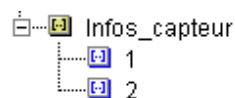

Figure 111 : Types – Tree structure versions
- Click  to access the tree structure versions of the selected model (Figure 111),
Caution : If the type has several versions, the duplication is possible only in the last version. In order to duplicate another type version, we must select the version in the tree structure type versions (Figure 111) before activating the command **Model ... → Duplicate**.
Caution : If the type has several versions, the copy is carried out only in the last version. To copy another version of the type, it is necessary to select the version in the tree structure version model (Figure 111) before activating the command **Model ... → Copy**.
When the new type version has been created, it is inserted in the versions tree structure (Figure 111).